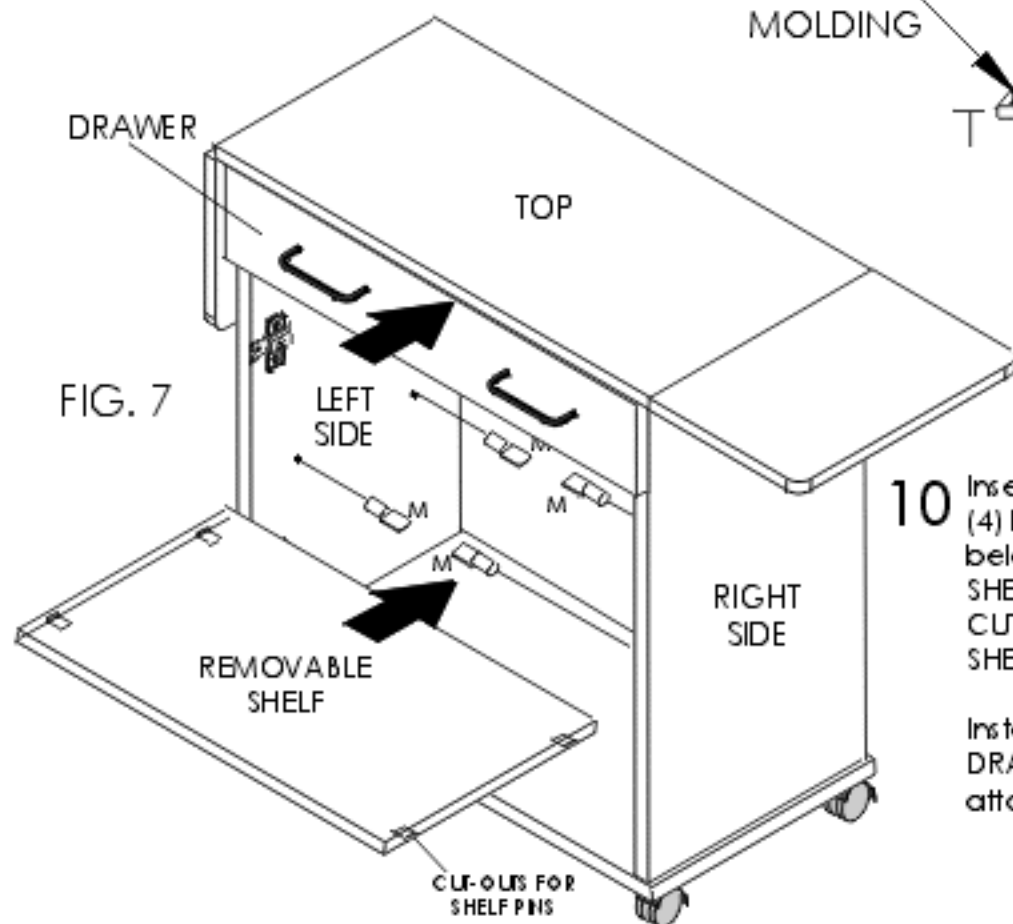

FIG. 7
10 Insert (4) 5mm SHELF PINS (M) into the (4) holes on the inside faces of SIDES, below the BRACE. Insert REMOVABLE SHELF onto SHELF PINS. (FIG. 7) NOTE: CUT-OUTS on underside of SHELF sit on SHELF PINS.